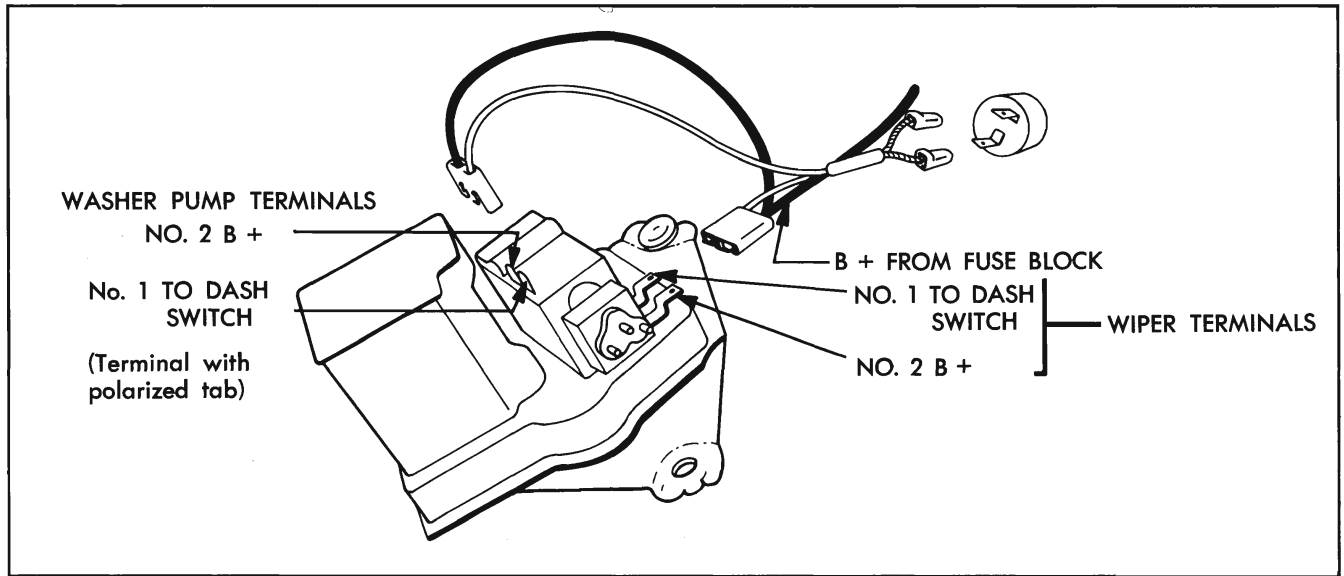

Fig. 11-104 Washer Pump Terminals
2. If all items in Step 1 check out, start wiper motor only, then push washer button and listen for "click" as washer relay pulls in. If no "click" is heard, check for 12 volts at terminal No. 2 (Fig. 11-104). No voltage indicates defective wiring. If "click" is heard, proceed to Step 4.
3. If correct voltage was found in step No. 2, connect a jumper wire from terminal No. 1 to ground (Fig. 11-104) and operate wiper. If washer relay "click" is heard and pump functions correctly, a defective dash switch or an open circuit between washer pump and dash switch is indicated—"No Click" indicates an open relay coil.